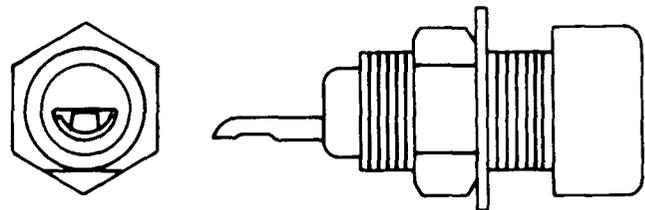

Fig. 3 — KS-20667-type Pin Jack
2.03 **KS-20667, L1 Through L16:** The KS-20667, L1 through L16, pin jacks (Fig. 3) accommodate 0.080 inch diameter pin plugs and contain solder tails. The jacks are intended for use in various units of the N2 Carrier System.